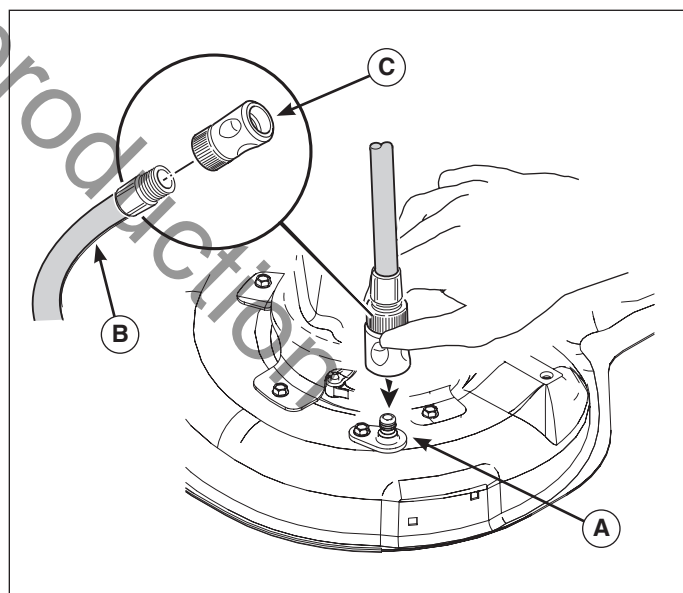

Figure 23
2. Attach the quick disconnect (A, Figure 23) to garden hose (B) and connect to washout port (C) on mower deck.